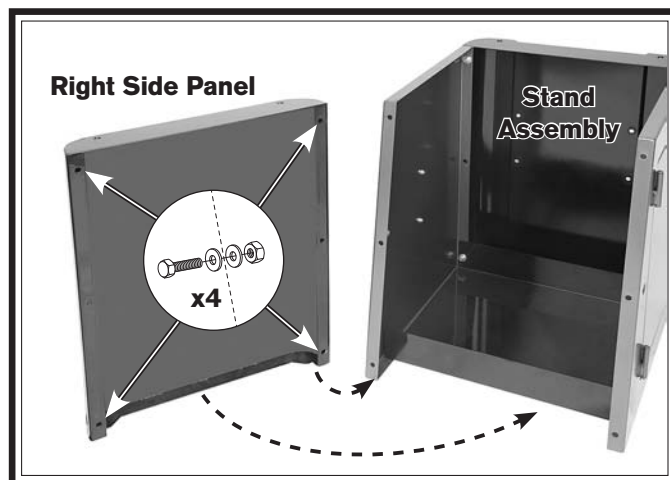

Figure 10. Right panel assembly.
3. Attach the right panel to the stand assembly as shown in **Figure 10** with four M8-1.25 x 15 hex bolts, four M8-1.25 hex nuts, and eight 8mm flat washers.
5. Install the handle with four M8-1.25 x 40 hex bolts, eight 8mm flat washers and four M8-1.25 hex nuts as shown in **Figure 10**.